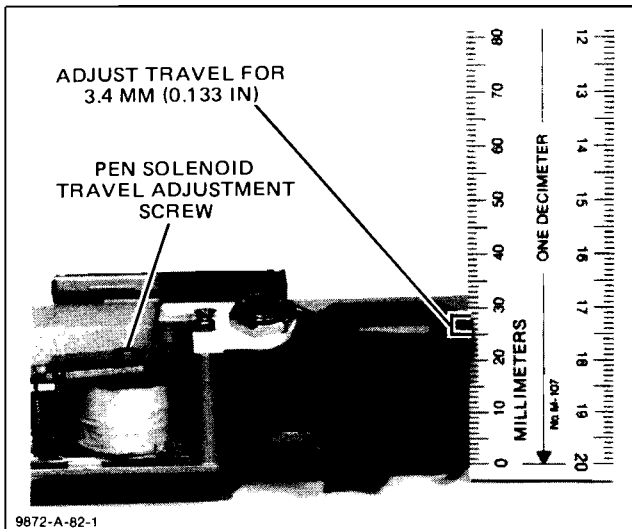

Figure 3-4. Pen Solenoid Travel Adjustment
- Using a common screwdriver, set the pen solenoid travel adjustment screw to obtain a travel of 3.4 mm (0.133 in.). Refer to Figure 3-4.